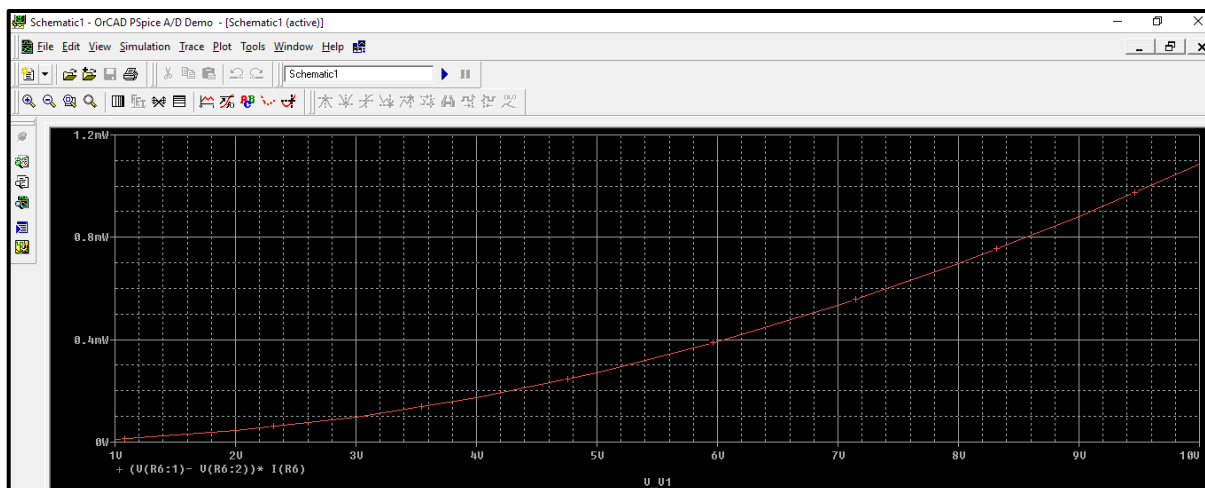

Figure.26
- The output is displayed in figure.26, note that the y-axis unit now is Watt.